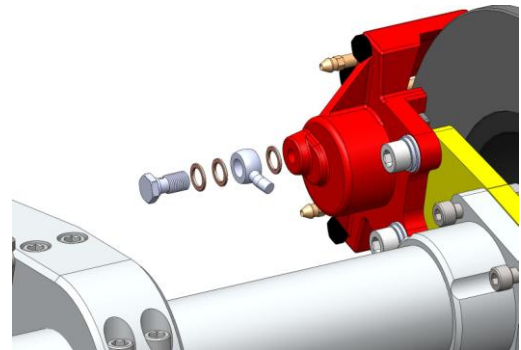

Figure 4
- Attach brake line with bend as seen in Figure 4 to each caliper using the supplied banjo bolts and crush washers. (Note: Use a total of three crush washers.) Figure 4